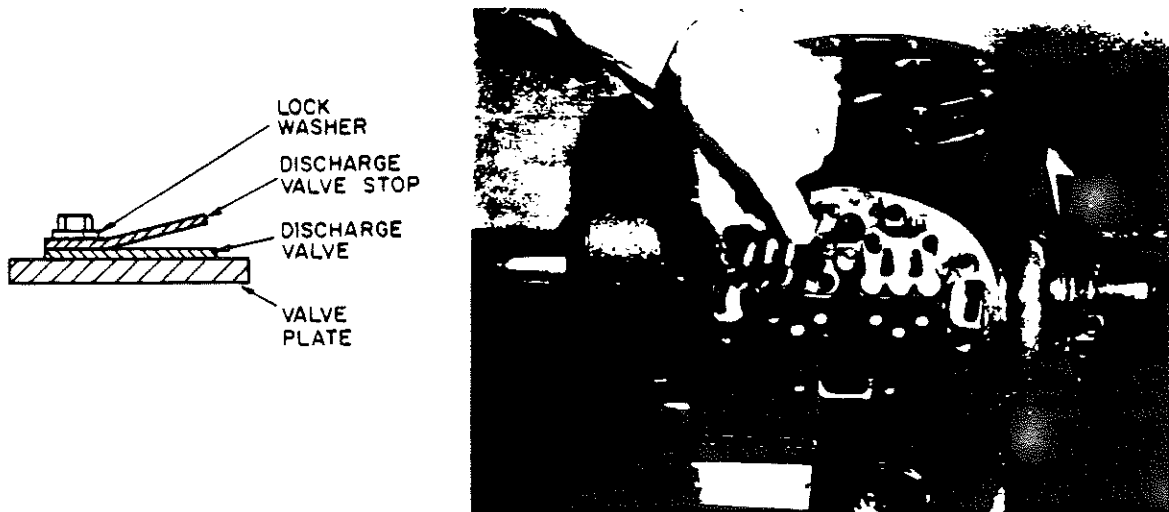

Figure 3-21. Installing Discharge Valve and Valve Stop
f. Install discharge valve and discharge valve stop with capscrews and lock washers. (See figure 3-21.) Torque capscrews to value shown in table 3-1, page 3-15.